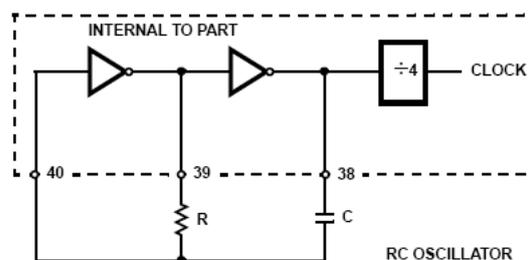

FIGURE 4B. CLOCK CIRCUITS
2. Figure 4B. An R-C oscillator using all three pins.